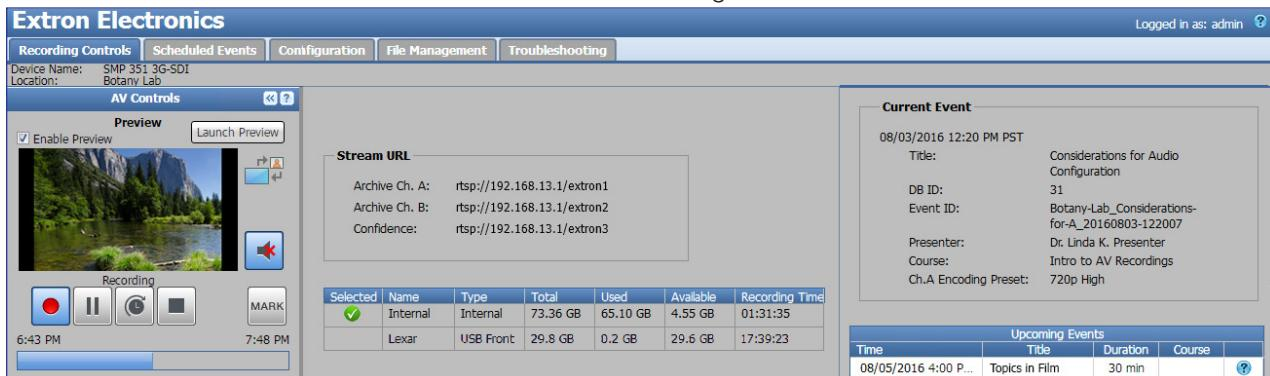

Figure 100. Recording Controls
2. The Recording Controls page opens. In the Stream URL panel, if the archive and confidence streams are set to **Pull** (see Push Stream and Pull Stream Playback URLs on page 150), the box displays the URL necessary to request a stream from the SMP 300 Series. Note the full URL in figure 100 for later reference.